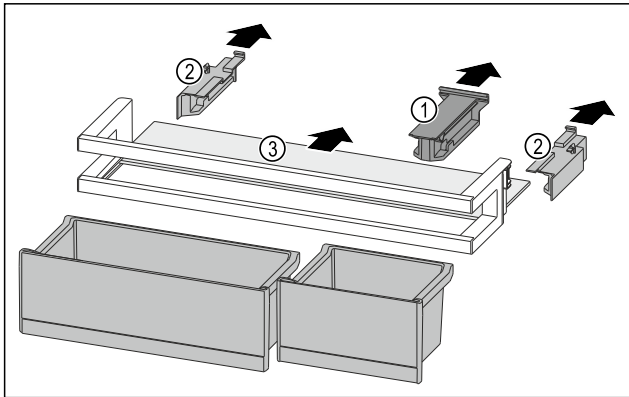

Fig. 152
- ▶ Pull off the holding part Fig. 152 (1).
- ▶ Pull off the side parts Fig. 152 (2).
- ▶ Remove the shelf Fig. 152 (3).